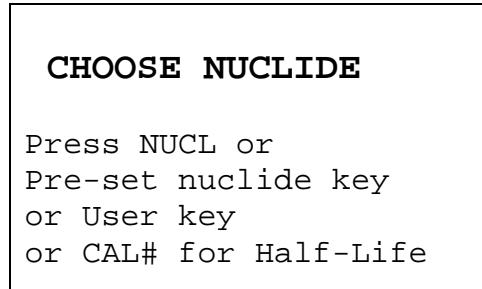

Figure 14-5 Choose Nuclide for Decay Calculation Screen
From Figure 14-2 Calculations Menu select *DECAY CALC*. Figure 14-5 Choose Nuclide for Decay Calculation Screen will appear.
- Press any other key to return to Figure 14-5 Choose Nuclide for Decay Calculation Screen.